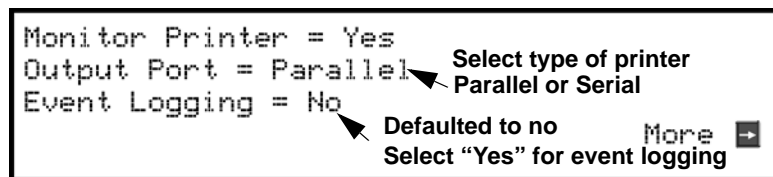

Figure 4.34 Selecting Printer and Output Port Options
5. Press the right arrow to skip over the Enter Module ID and Enter Module name options. A screen similar to the one shown in Figure 4.34 will display.